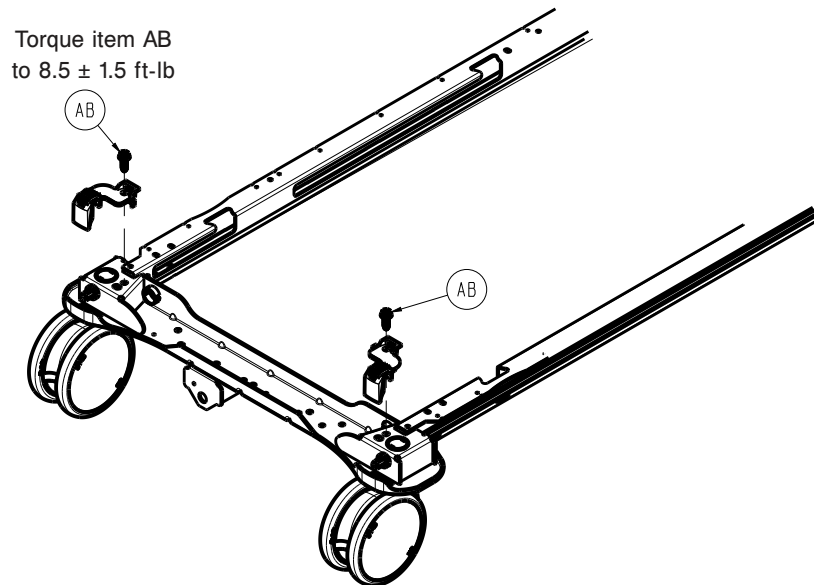

Figure 15 – Removing the caster
7. Using a ratchet and 1/2" socket, remove the bolt (AB) and brake shaft retainer on the side of the caster (which must be replaced) on the head end and foot end of the brake shaft (above the caster) (Figure 15).
7. Using a ratchet and 1/2" socket, remove the bolt (AB) and brake shaft retainer on the side of the caster on the head end and foot end of the brake shaft (above the caster) (Figure 15).